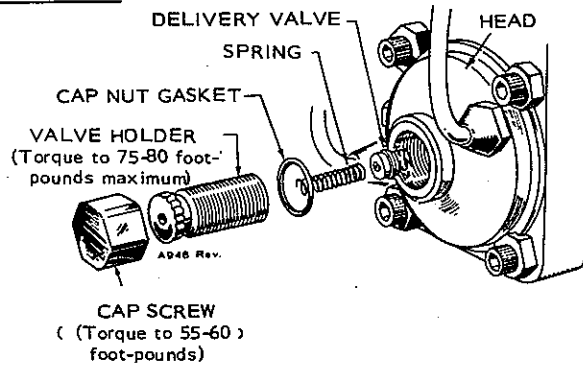

FIGURE 9-14. DELIVERY CAP AND VALVE SCREW
2. Remove delivery valve cap screw (Figure 9-14) and lift out delivery valve spring and delivery valve.
3. Rotate flywheel counterclockwise to about 15 degrees before port closing mark (PC). The pointer to indicate timing marks is located on the gear cover near the governor arm. Use a socket wrench on the flywheel cap screw to rotate the flywheel.